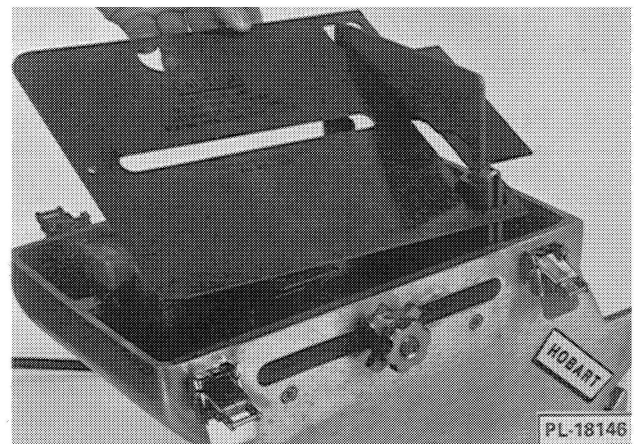

Fig. 11
9. Lift insulating cover (Fig. 11) from housing.